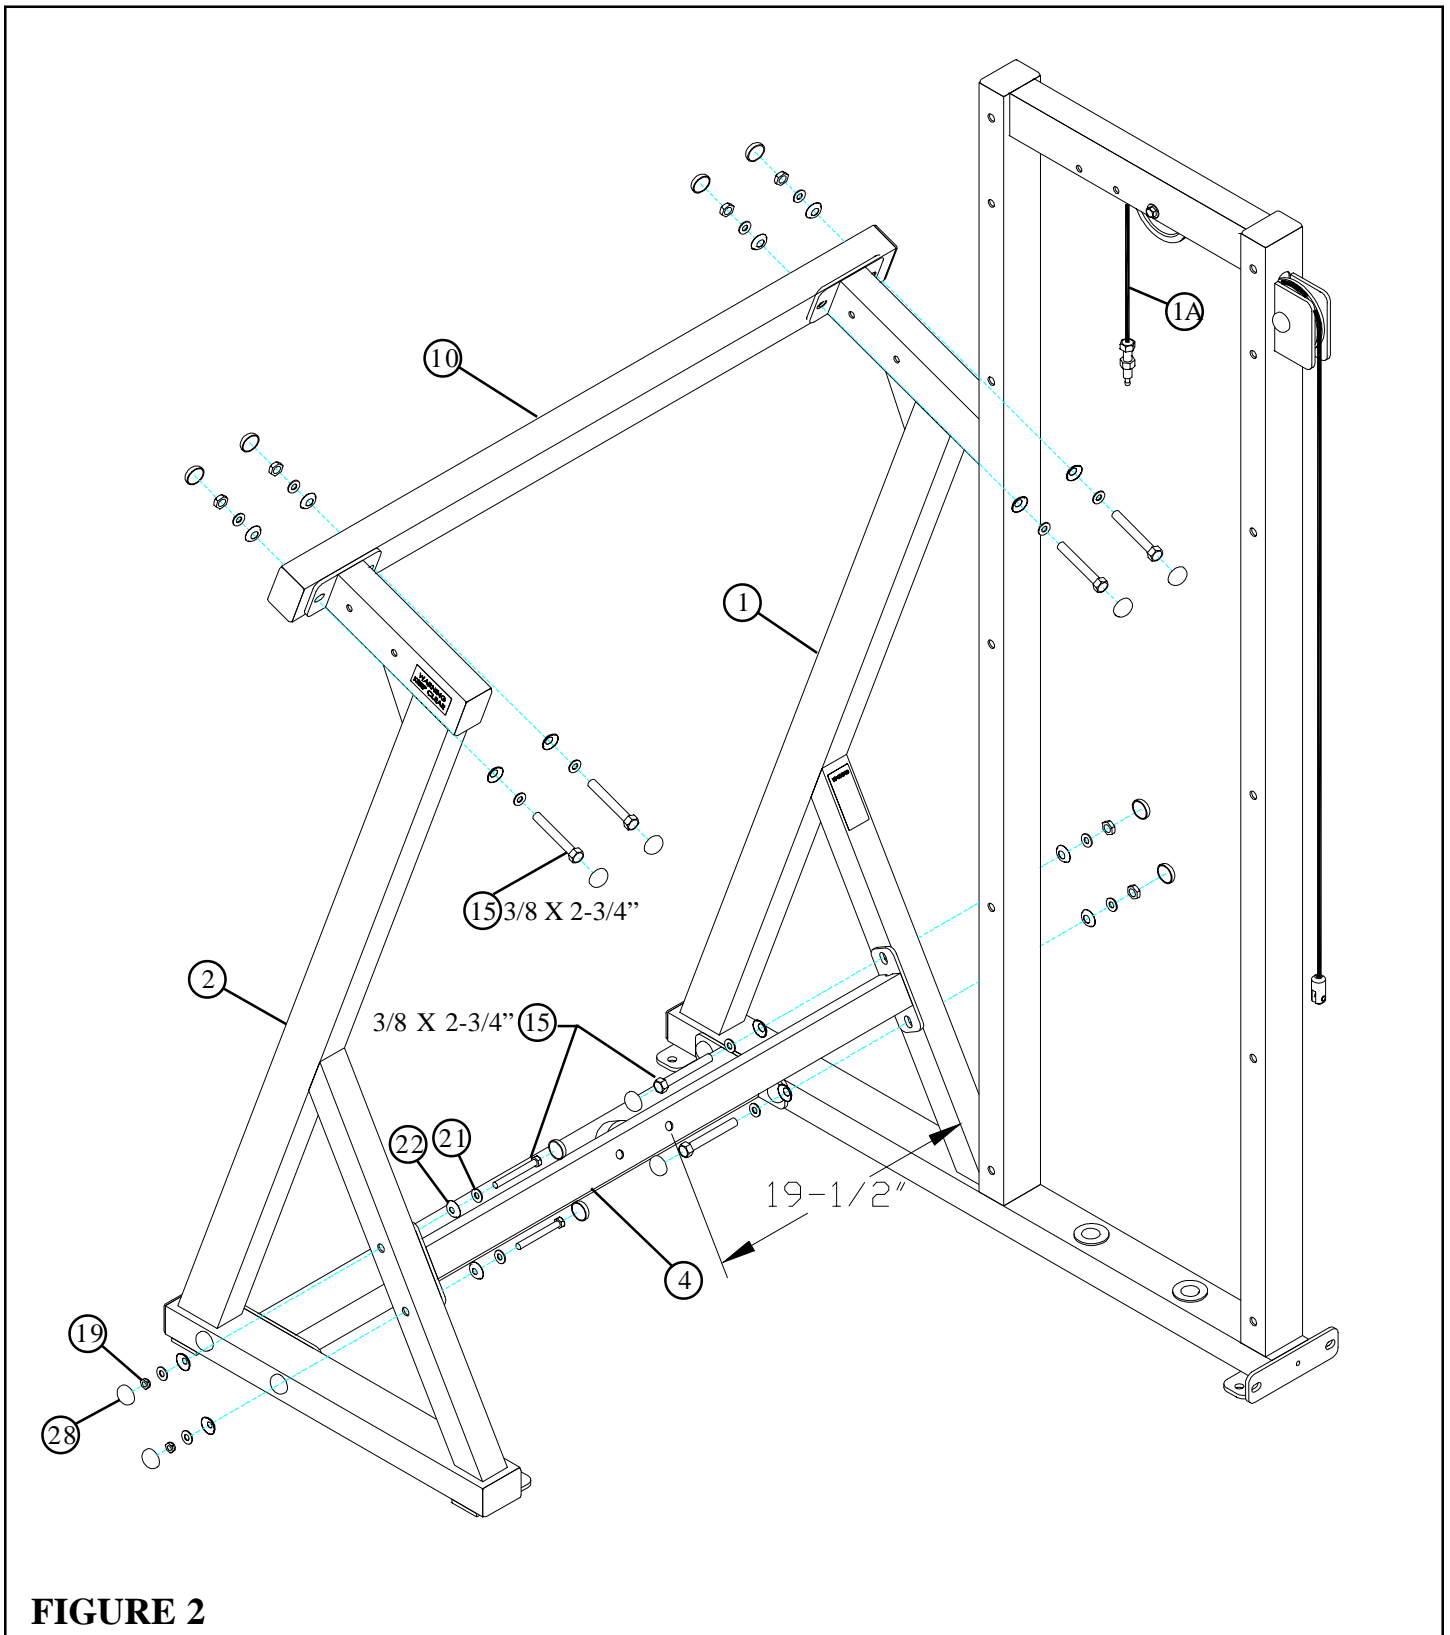

FIGURE 2
- **LOOSELY** assemble the TOP CROSS SUPPORT (4) to the TOWER (1) and the PIVOT ARM SUPPORT (2) using eight RH CAPS (28), four 3/8 X 2-3/4" BOLTS (15), eight 3/8" SAE WASHERS (21), eight 3/8" RH WASHERS (22) and four 3/8" LOW HEIGHT LOCK NUTS (19) as shown in FIGURE 2. (**NOTE HOLE LOCATION BEFORE ASSEMBLY**)
- **LOOSELY** assemble the 48" TUBE (10) to the TOWER (1) and the PIVOT ARM SUPPORT (2) using eight RH CAPS (28), four 3/8 X 2-3/4" BOLTS (15), eight 3/8" SAE WASHERS (21), eight 3/8" RH WASHERS (22) and four 3/8" LOW HEIGHT LOCK NUTS (19) as shown in FIGURE 2.